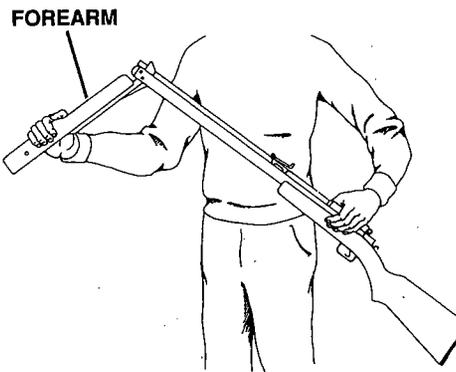

FIG. 3
- Open the forearm all the way until it stops. (Fig. 3)